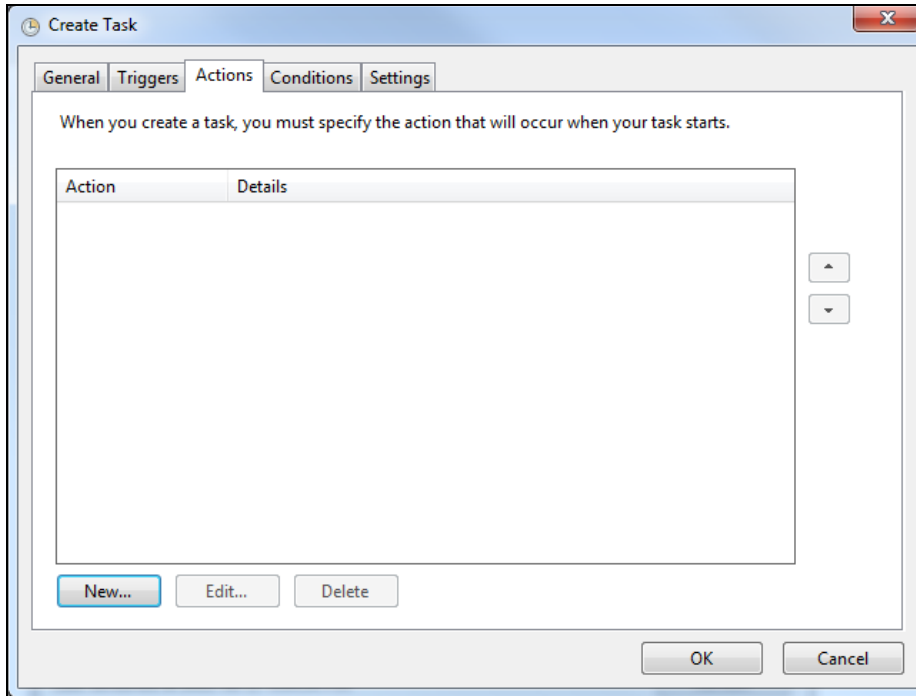

Figure 13: Configuring a Task - Actions
- f. Under the “Actions” tab, select “New” (Figure 13).